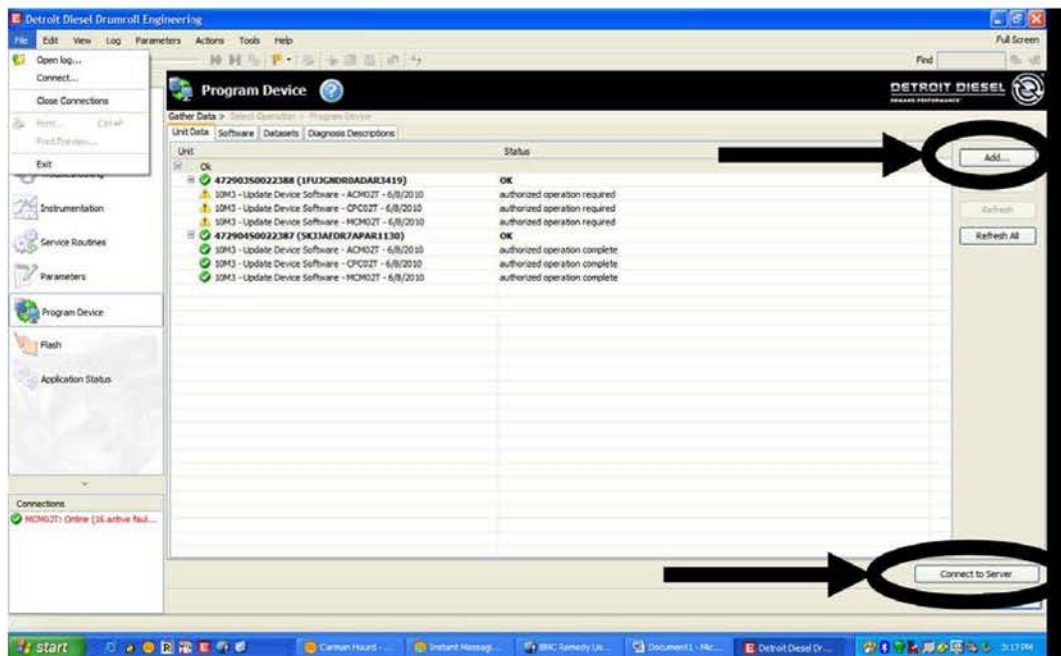

Figure 2 – Adding Engine Serial Number And Connecting To Server
8. Select the "Add" button in the upper right corner of the DiagnosticLink screen and enter the engine serial number. Then click the "Connect to Server" button in the bottom right corner of the DiagnosticLink screen. See Figure 2.